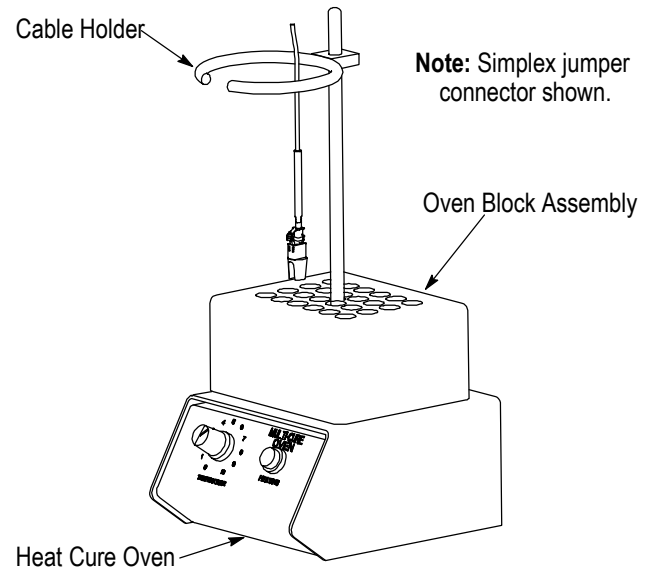

Figure 11
2. Place the connector subassembly (with attached cure protector) in the heat cure oven according to the instructions packaged with the oven. Refer to Figure 11. Cure the epoxy between 115° and 120° C [239° and 257° F] for a minimum of 15 minutes.